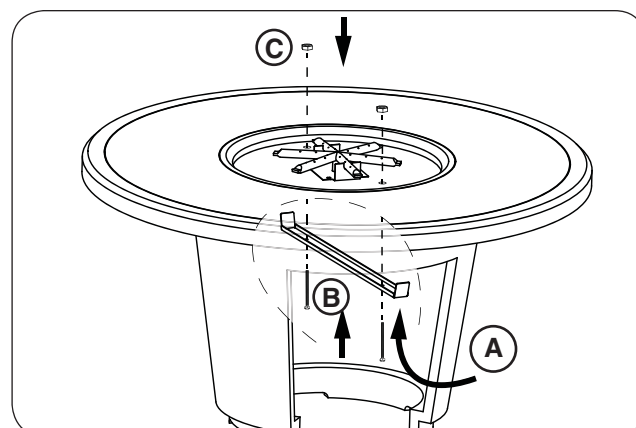

Fig. 16-4 Two-piece models: install bracket
5. Locate the supplied support bracket kit and install as shown in Fig. 16-4. The bracket must be inserted into the enclosure through the door opening, aligned with the holes found in the burner tray, and fastened with a 1/2" wrench and the 2 supplied bolts and nuts.